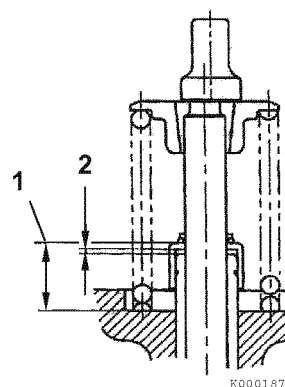

Figure 6-20
2. Measure the distance (1, **Figure 6-20**) from the machined spring seat surface of the cylinder head to the top of the valve stem seal to ensure there is proper clearance (2, **Figure 6-20**) between the guide and the seal.